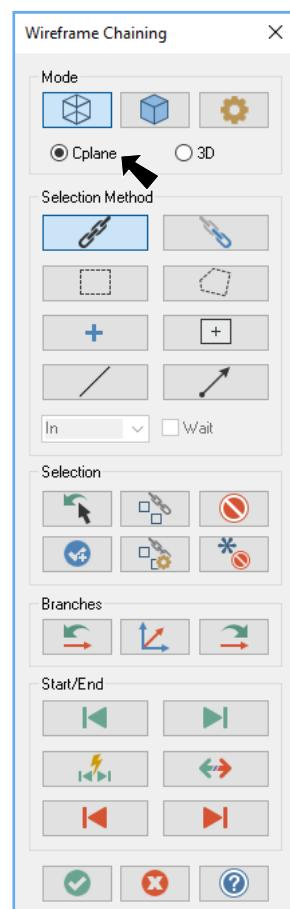

Fig. 24
Step 9. Select **Cplane** in the Chaining dialog box, Fig. 24.